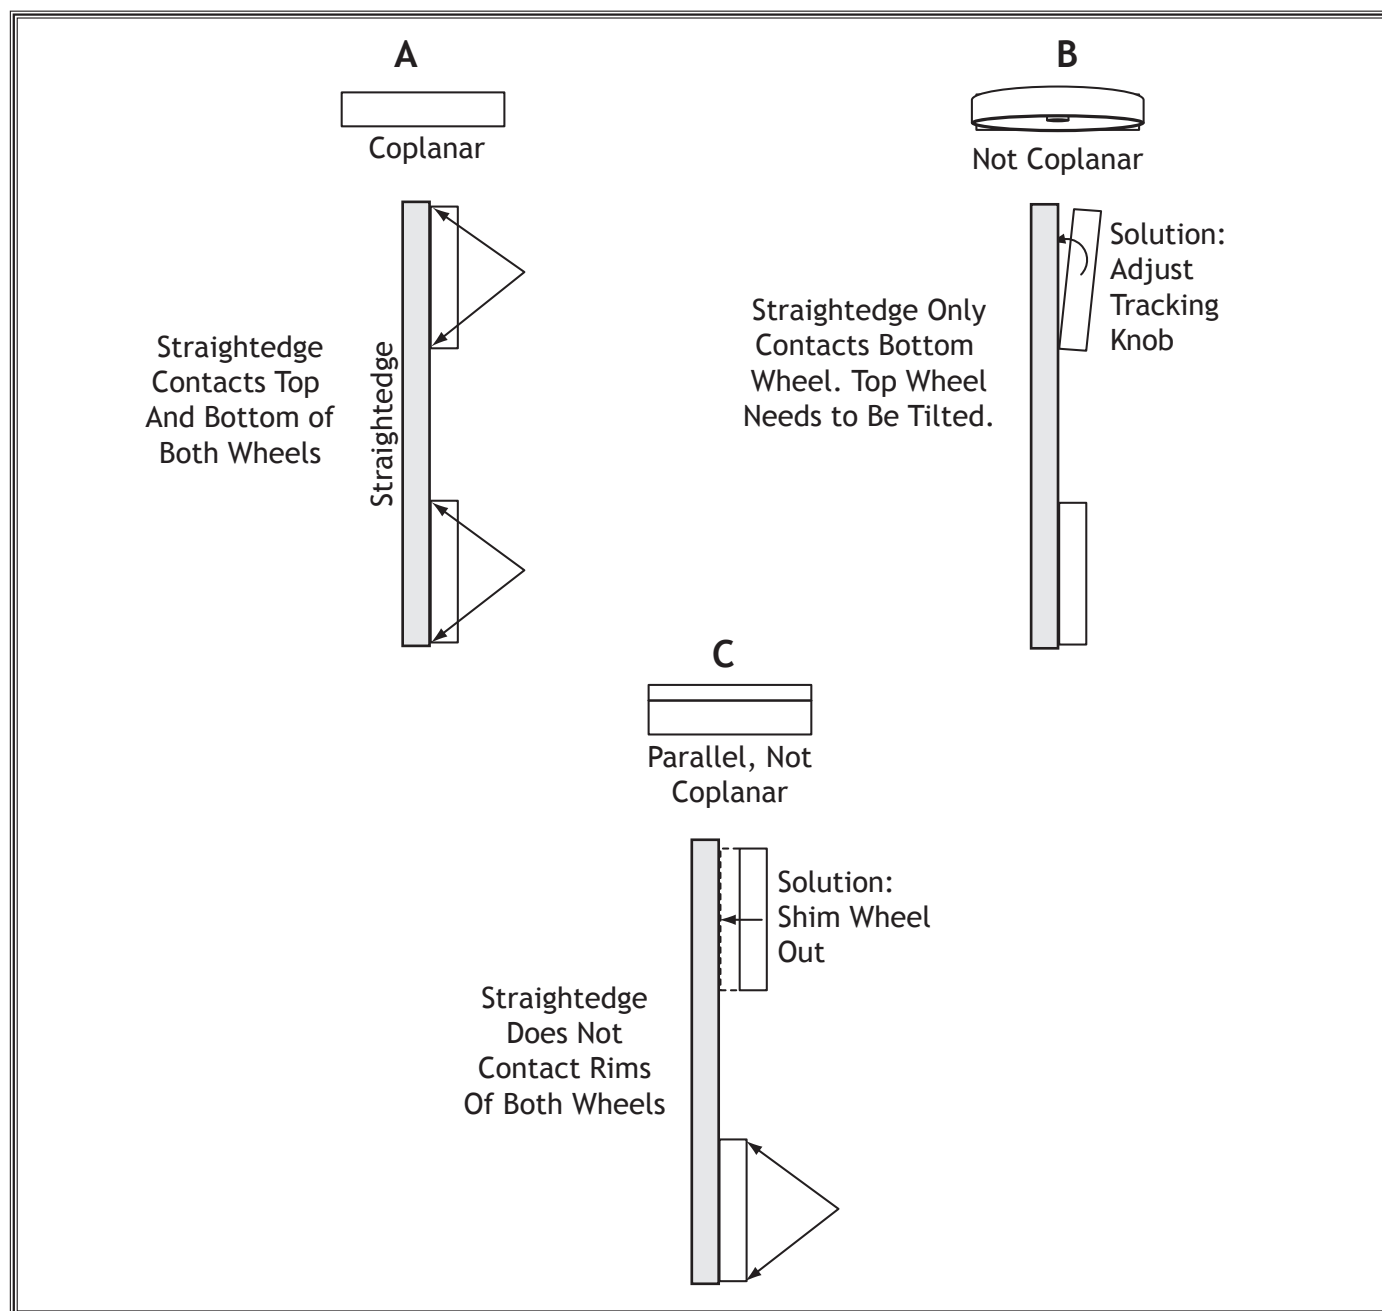

Figure 62. Coplanar conditions.
- If the wheels are coplanar (see **Figure 62, "A"**), the straightedge will evenly touch the top and bottom of both wheels.
- If the wheels are not coplanar (see **Figure 62, "B"**), place the straightedge on the lower wheel first (ensuring that it touches both the top and bottom rim), then adjust the upper wheel tracking knob to make the upper wheel coplanar with the lower wheel.
- If the wheels are coplanar (parallel with each other), but the straightedge does not touch the rims of both wheels (see **Figure 62, "C"**), then shim the wheels as instructed on the next page.